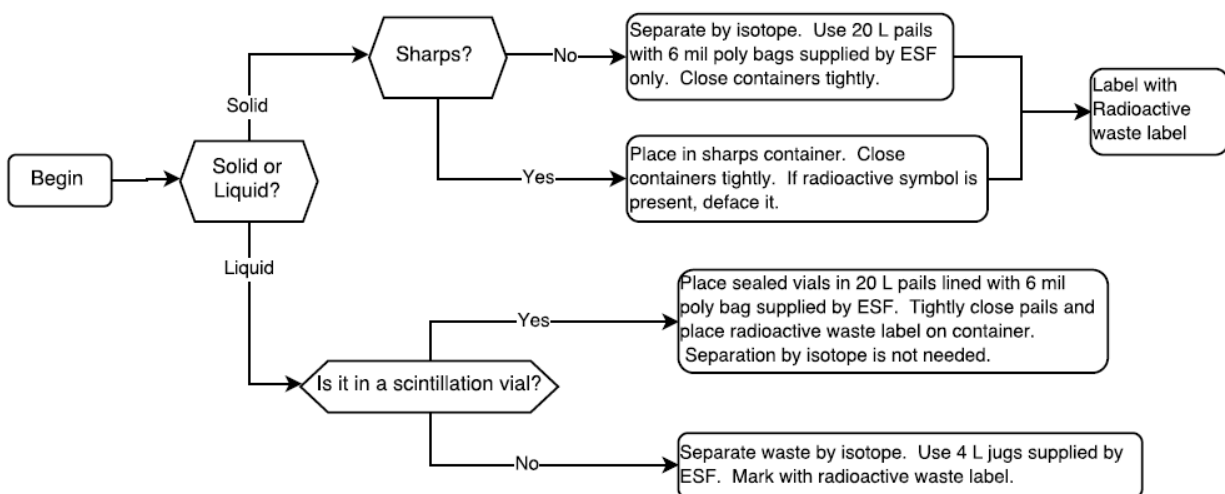

Figure 1: Waste segregation flowchart for radioactive wastes.
1. SEGREGATE radioactive wastes based on the segregation flowchart (Figure 1) in this guideline.